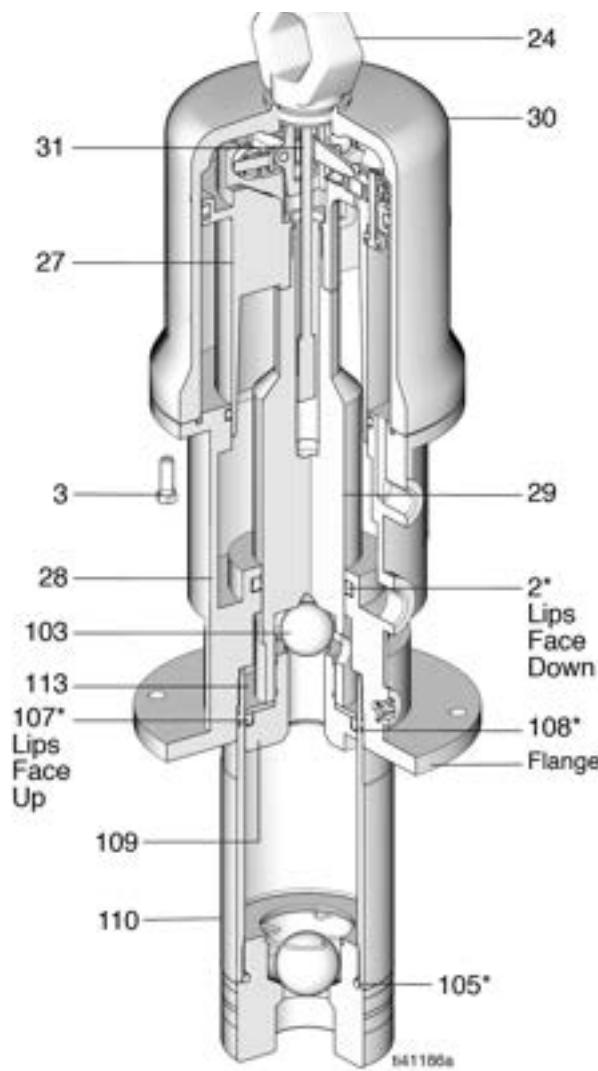

FIG. 3
Refer to FIG. 3 for the following instructions.
15. Grip the trip rod (31) with padded pliers, screw the lift ring (24) onto the tip rod, push the lift ring down, and screw it into the top of the cylinder.
16. Install the u-cup packing (107†) with the lips facing up, and place the piston washer (113) on the piston/valve sear (109). Make sure that the lips of the u-cup packing face up (FIG. 3)
17. Place the piston ball (103) in the piston rod (29).
18. Clean the threads of the piston/valve seat. Apply thread locking compound to the threads (109), and thread the assembly from step 16 onto the piston rod (29).
19. Clamp the flats of the piston/valve seat (109) in a vise, and torque the piston rod (29) to the piston valve seat to 40 to 60 ft.-lbs (54 to 81 N•m).
20. Clamp the air motor base (28) in a vise horizontally by closing the vise jaws on the flange.